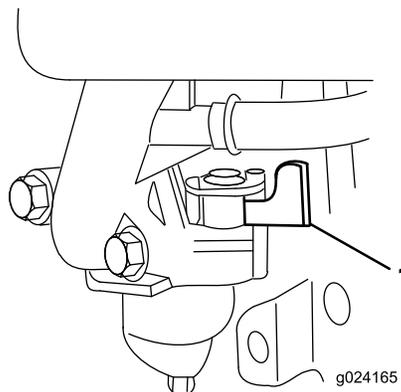

Figure 15
2. Open the fuel valve by moving the fuel-valve lever to the **right** (Figure 15).
**Note:** Close the fuel valve by moving the fuel-valve lever (Figure 15) to the **left** if you will not be starting the engine soon afterward.